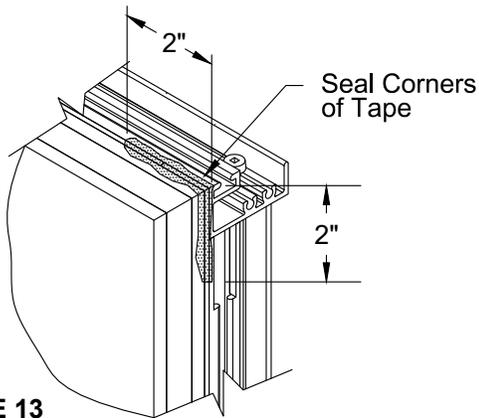

FIGURE 13
- 2.16 Apply cap bead of a 1-part neutral cure silicone sealant to the edge of the VHB SGT, between the glass and metal, in each corner. Sealant should be applied 2" in both directions around each corners. See Figure 13